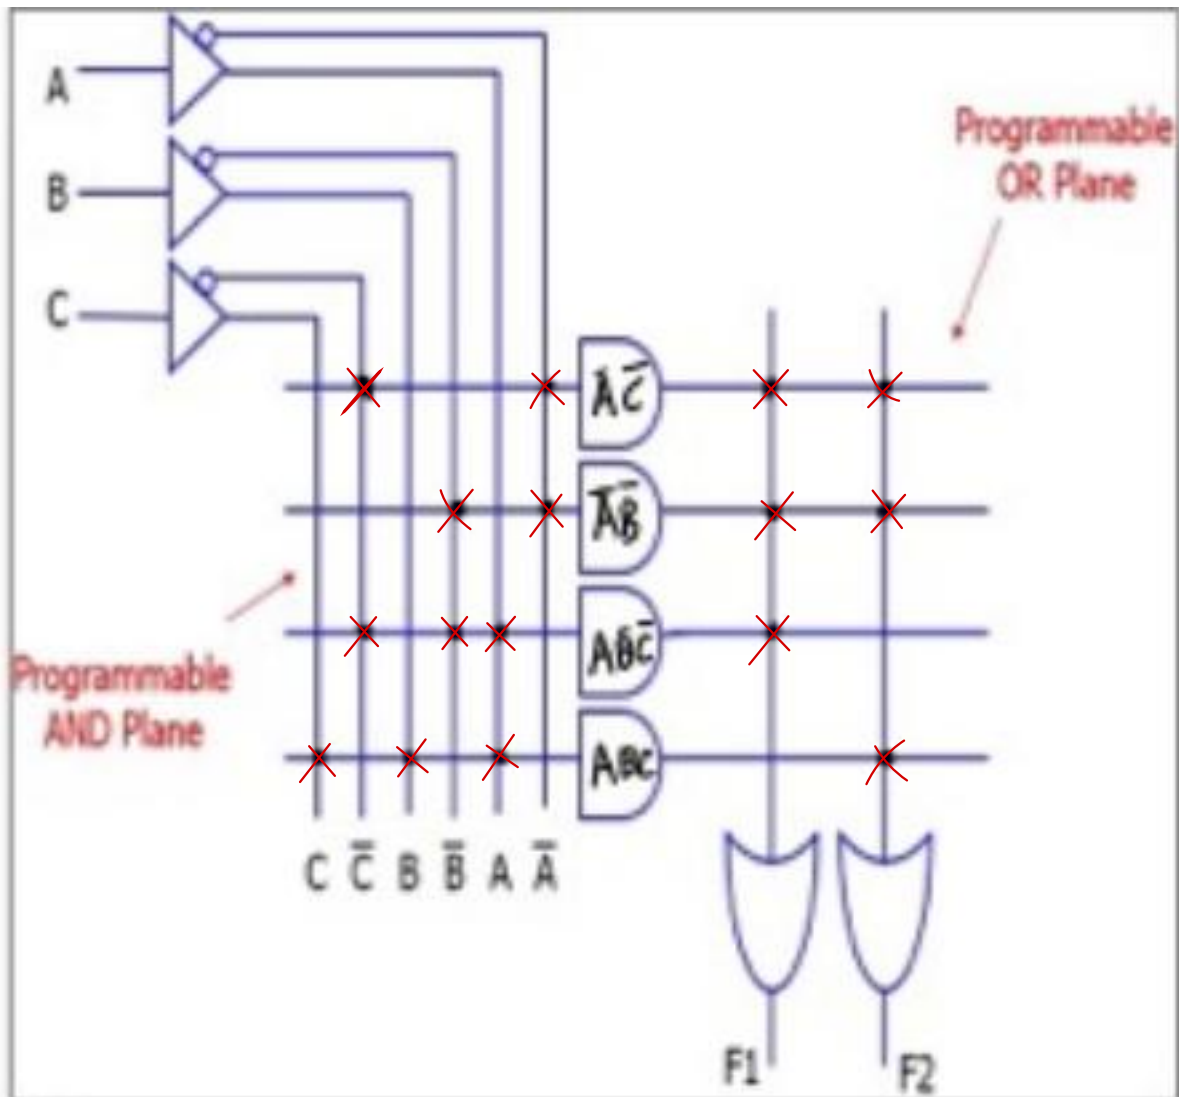

Figure 18: PLA implementation for Task 4.1
a) Create a truth table for F_1 and F_2 and identify simplified logic expressions using K-map for each function in terms of inputs A, B and C. Use a PLA programming table. Show all working done to arrive at your answers. Mark the interconnection in Fig. 18.